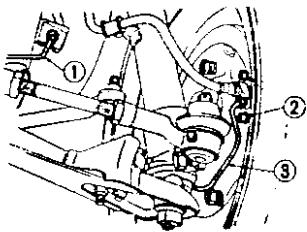

Fig. L.6 Removing the wheel cylinders.
5. Disconnect the bridge pipe (3 in Fig.L.6.) and remove the two wheel cylinders.